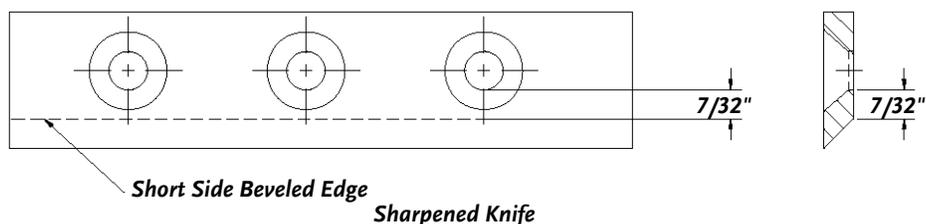

Figure 18
- Once this measurement is below $7/32"$ (see **Figure 18**), or if you are unable to remove dents or gouges with these guidelines, replace the Knife.